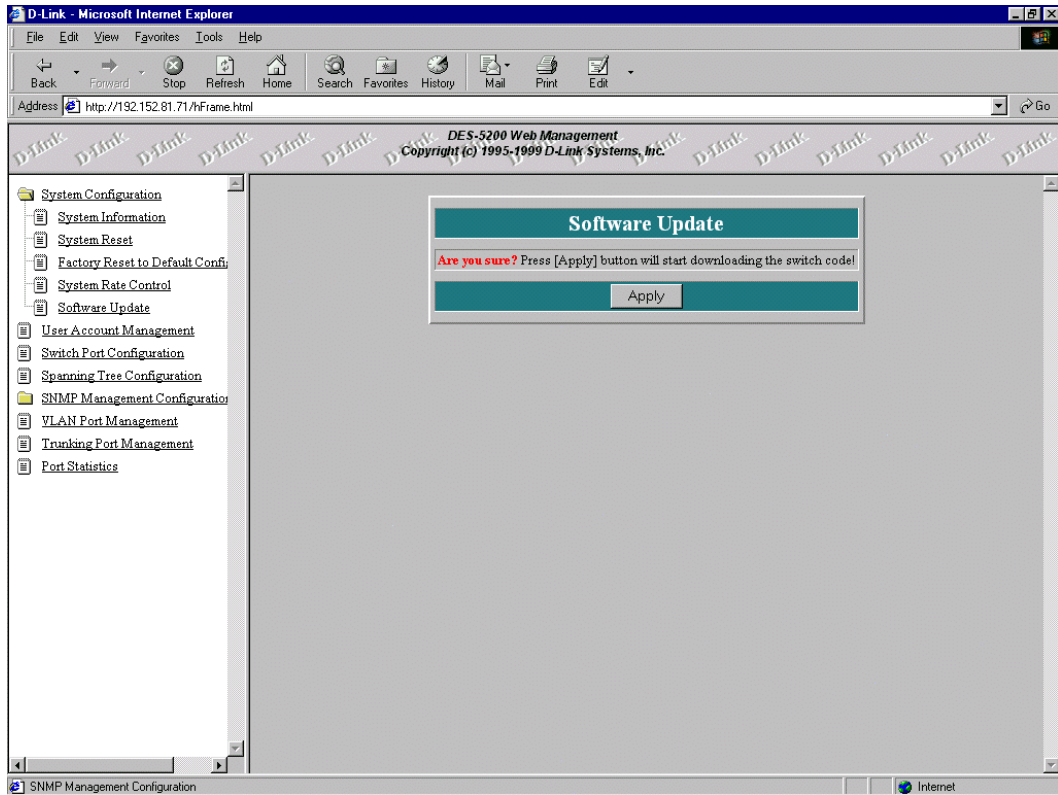
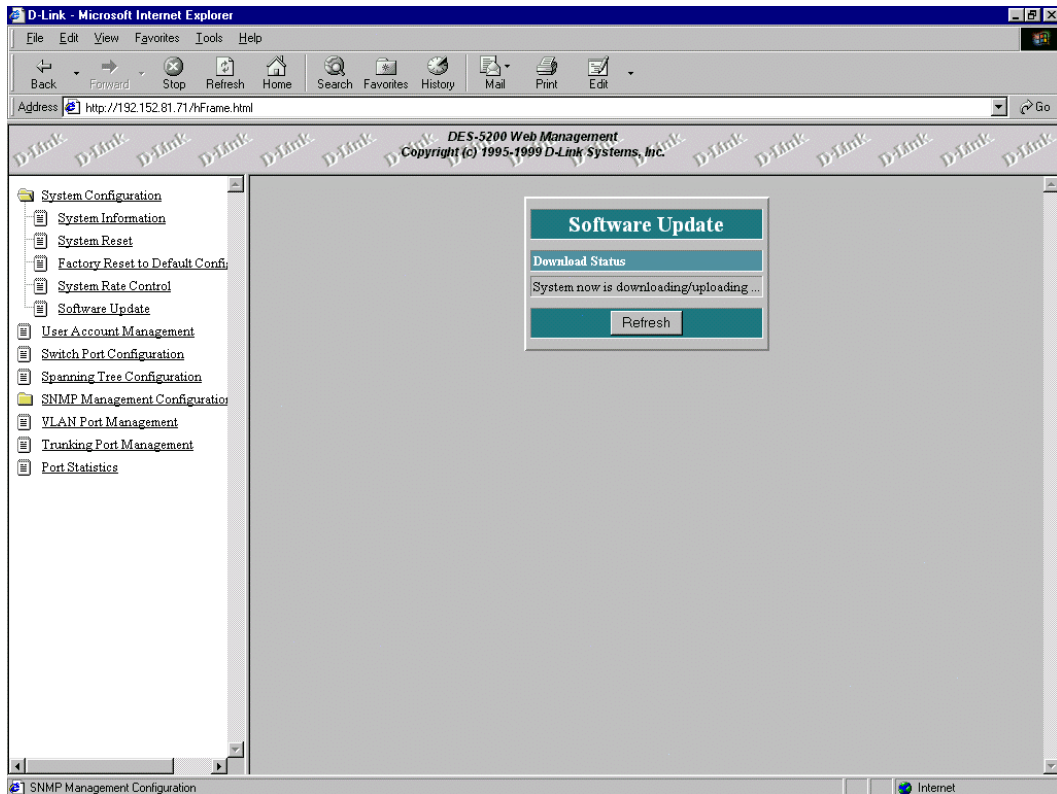

Figure 59: Software Update Confirmation
Figure 60: Software Download
3. There is a confirmation panel and a status panel, see Figure 59 and Figure 60. Select Apply.